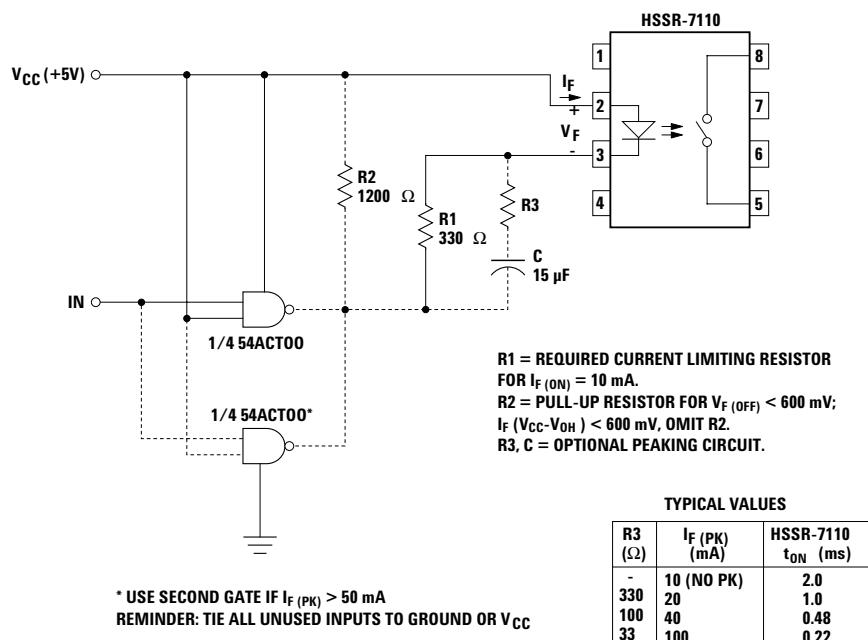

Figure 1. Recommended Input Circuit.
6. For a faster turn-on time, the optional peaking circuit shown in Figure 1 may be implemented.
Input Circuit: The drive circuit of the electro-mechanical relay coil needs to be modified so that the average forward current driving the LED of the HSSR-7110 does not exceed 20 mA. A nominal forward drive current of 10 mA is recommended. A recommended drive circuit with 5 volt V_{CC} and CMOS logic gates is shown in Figure 1. If higher V_{CC} voltages are used, adjust the current limiting resistor to a nominal LED forward current of 10 mA. One important consideration to note is that when the LED is turned off, no more than 0.6 volt forward bias should be applied across the LED. Even a few microamps of current may be sufficient to turn on the HSSR-7110, although it may take a considerable time. The drive circuit should maintain at least 5 mA of LED current during the ON condition. If the LED forward current is less than the 5 mA level, it will cause the HSSR-7110 to turn on with a longer delay. In addition, the power dissipation in the output power MOSFETs increases, which, in turn, may